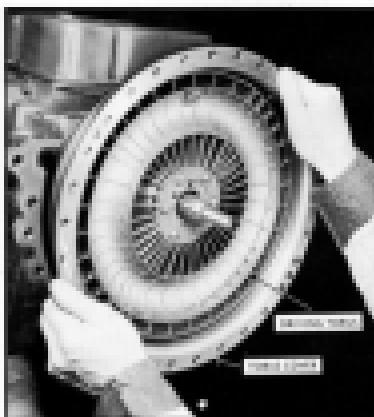

Fig. 377. Removing Torus Cover and Driving Torus
7. Remove torus cover and driving torus member as one unit. (Fig. 377)